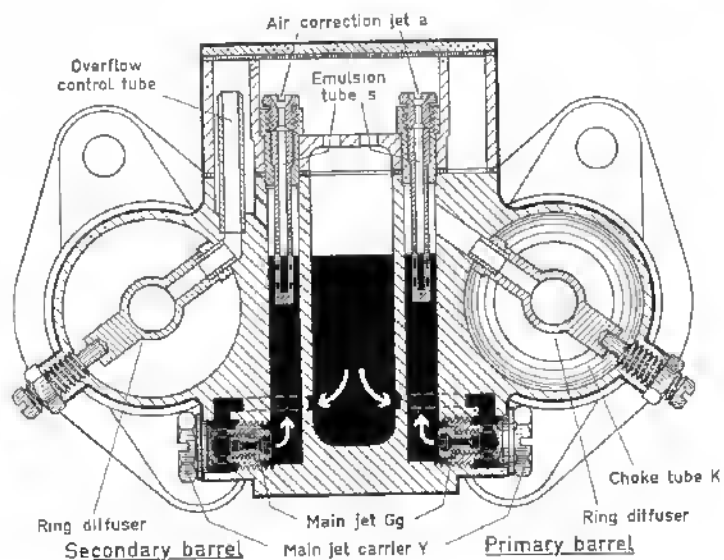

Fig. 27 Jet assembly of the 44 PNH carburetor
e) New Jet Assemblies (figs. 27 and 28)